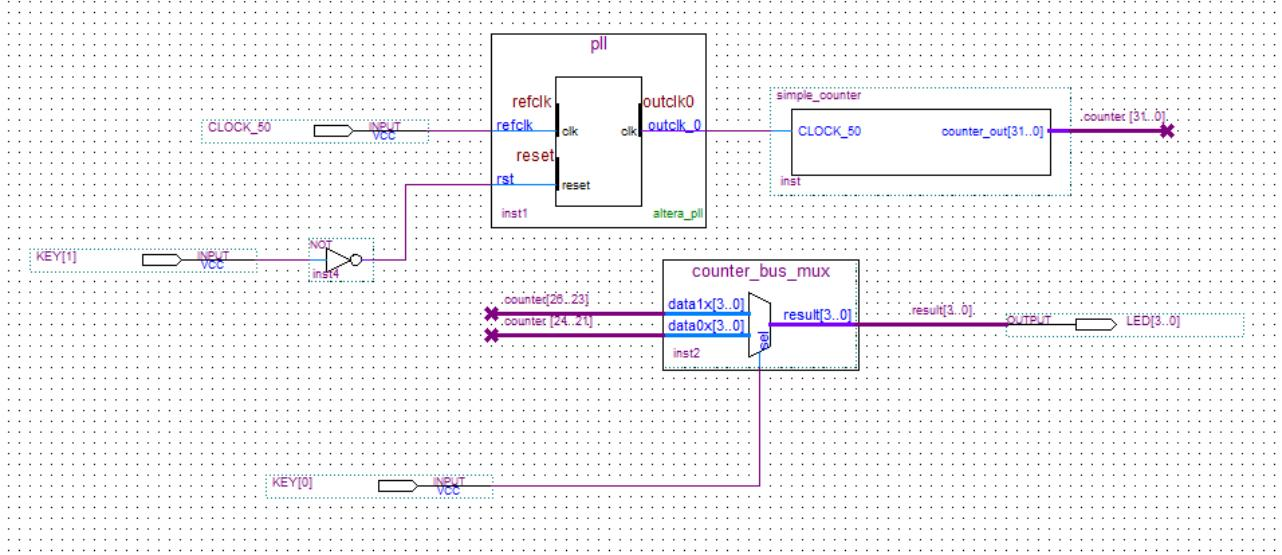

Figure 3-31 Place the not pin
27. Place this not pin so that it connects to KEY[1] and the pll rst (see Figure 3-31).